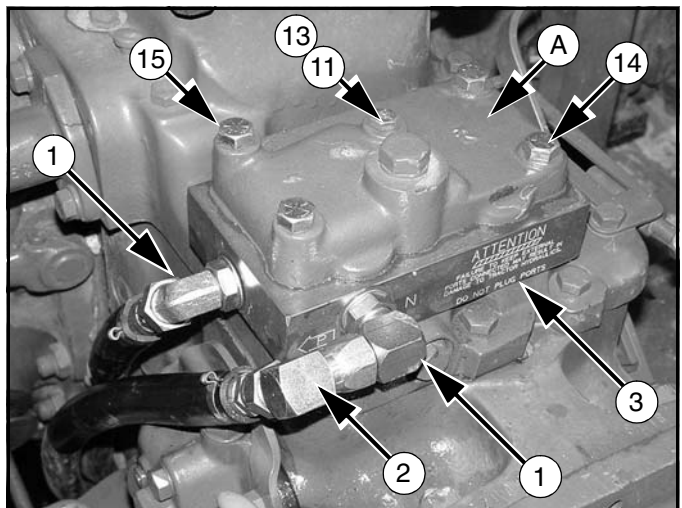

Figure 14. Adapter Plate Installed
2. Install elbows (1) and (2) to adapter plate (3).
3. Remove accessory plate cover (A). Be careful not to disturb the O-rings that need to stay with the cover plate when it is removed.
4. Install O-rings to bottom of adapter plate (3). Use petroleum jelly to keep the O-rings in the counterbores.
7. Secure with hex head cap screws and flat washer as shown in Figure 14.
8. Secure elbows (1) and (2) as shown.